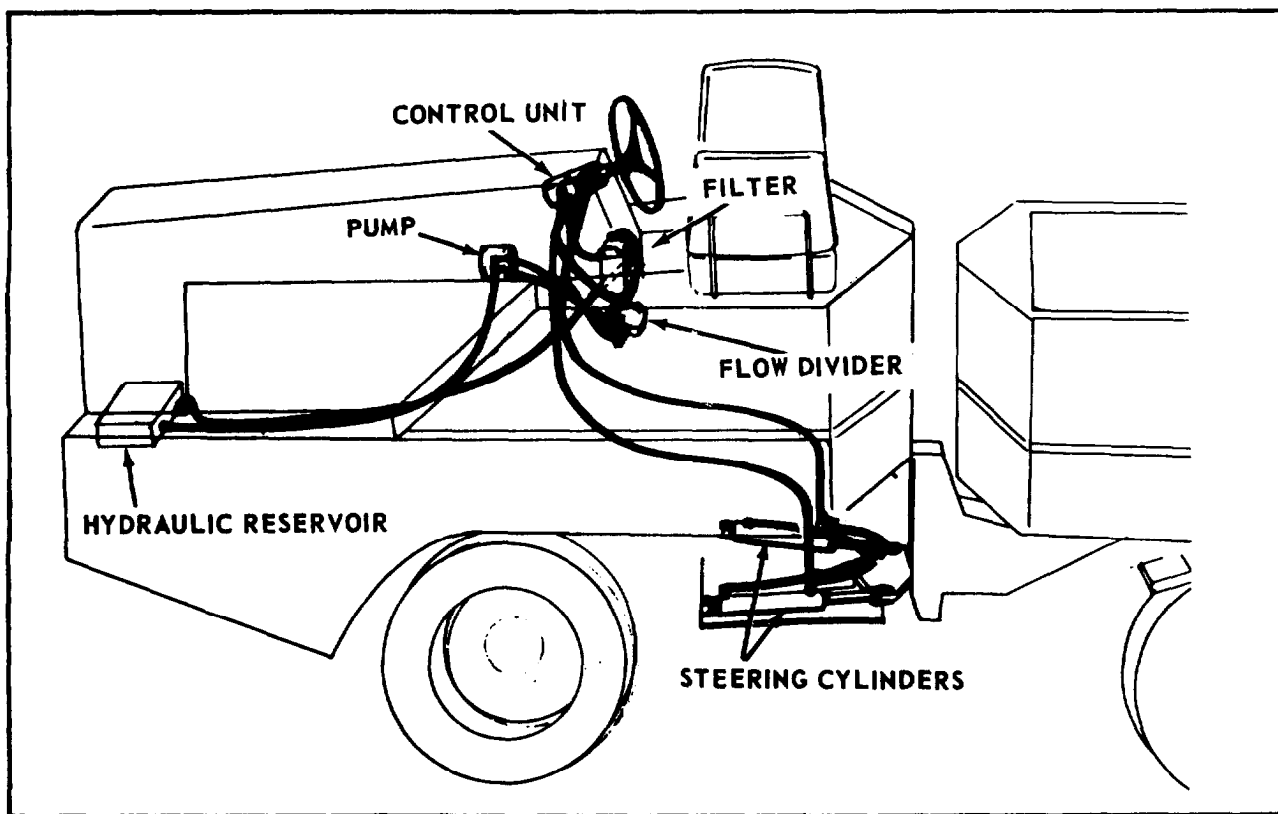

FIGURE 9-78.
**9-73. STEERING - DETROIT DIESEL (see figure 9-78).**
9-75. The steering system for a C530A equipped with the Detroit Diesel engine is basically the same as its gasoline engine counterpart, except for the hydraulic pump and the flow divider. Figure 9-78 shows a schematic view of the steering system components and the connecting hoses.